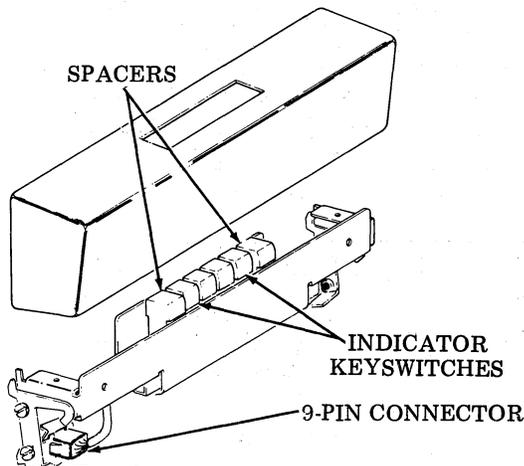
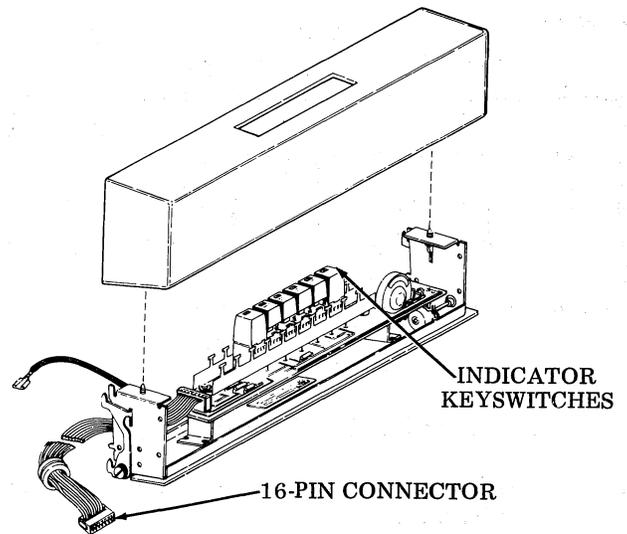

Fig. 6—40K001 and 40K004 ROP Opcons
Fig. 7—40K003 ROP Opcon
2.12 The major components of the 40K001 and 40K004 operator consoles are four indicator keyswitches hard wired to a 9-pin connector (Fig. 6). The major components of the 40K003 operator console are six indicator keyswitches, a 16-pin connector with a flat ribbon cable, and a built in alarm (Fig. 7).